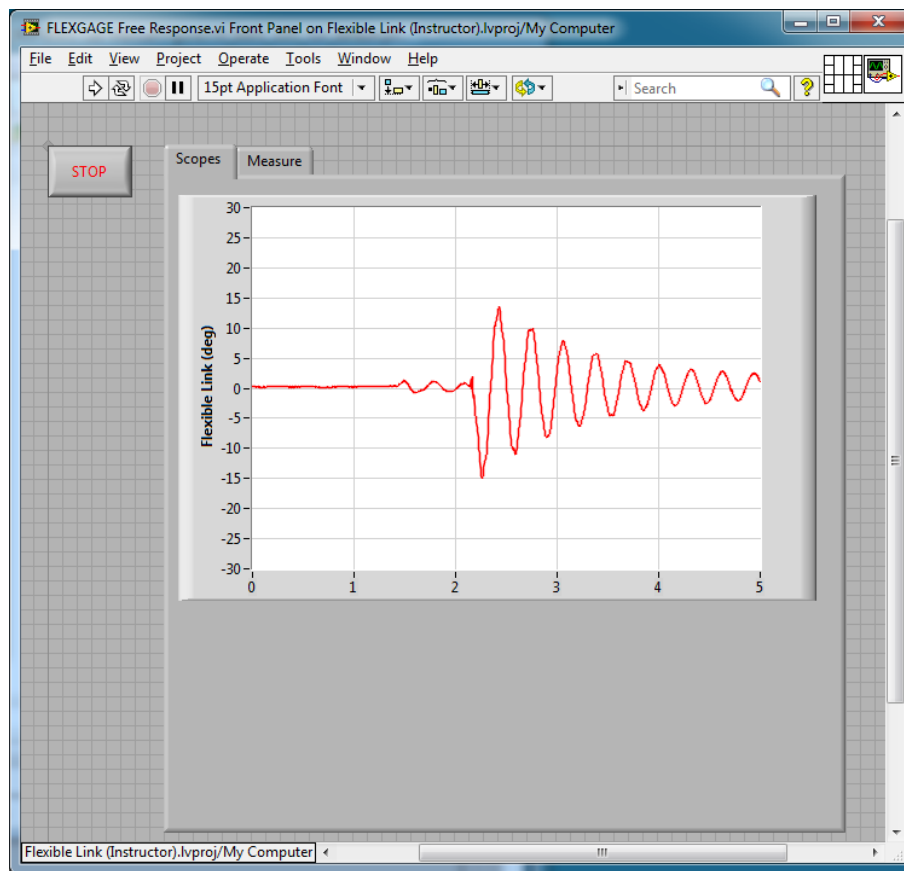

Figure 2.4: Free Response VI used to find link stiffness
The *FLEXGAGE Free Response* VI shown in Figure 2.4 is used to find the natural frequency of the flexible link. The VI interfaces with the strain gage sensor of the system and outputs the deflection angle of the link when run. The corresponding measurement is saved and plotted in the *Measure* tab to take measurements.
1. In *Rotary Flexible Link (Student).lvproj*, open the *FLEXGAGE Free Response* VI. The VI front panel is shown in Figure 2.4. Make sure the VI is configured for your data acquisition device, as explained in Section 4.2.
2. Hold on to the SRV02 load gear, click on the run button, and then immediately perturb the flexible link. Keep holding the SRV02 base until the controller is done collecting the data. The *Flexible Link (deg)* scope should be reading a response similarly as shown in Figure 2.4. The VI is set to run for 5 seconds.